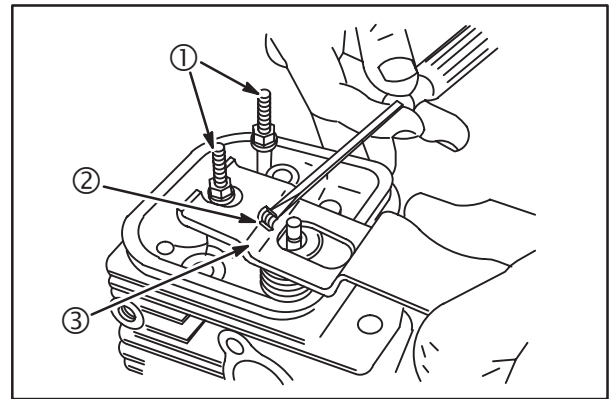

Fig. 7
- Compress valve spring and retainer with Valve Spring Compressor (3) #19347, Fig. 7.
- Remove valve spring retainer locks (2).